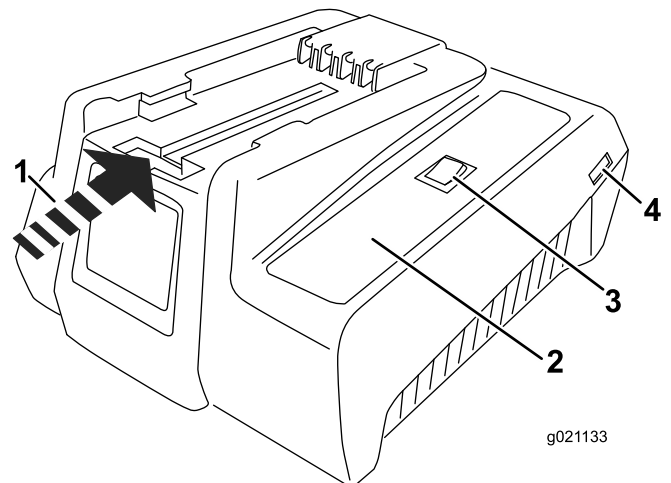

Figure 12
1. If the power cord is not plugged in to the charger, plug it in to the charger (Figure 12), then plug the power cord into a power socket.
2. Turn the battery upside down and line up the battery terminal with the slot in the charger (Figure 12 and Figure 13).